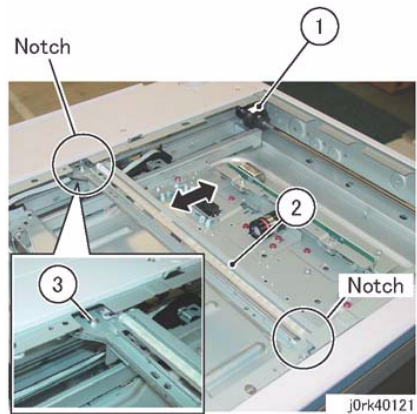

Figure 12 Full Rate Carriage
6. Affix the cable to the Full Rate Carriage. (Figure 12)